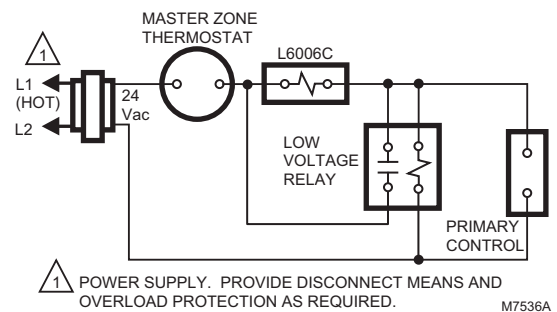

Fig. 23. Holding circuit for use with L6006 when verifying zero psig steam pressure.
4. Unscrew end cap (A) and remove cartridge from chamber (B). See Fig. 23.
1. Replace cartridge into chamber (B) and screw end cap (A) onto VA8200A (A). See Fig. 23.